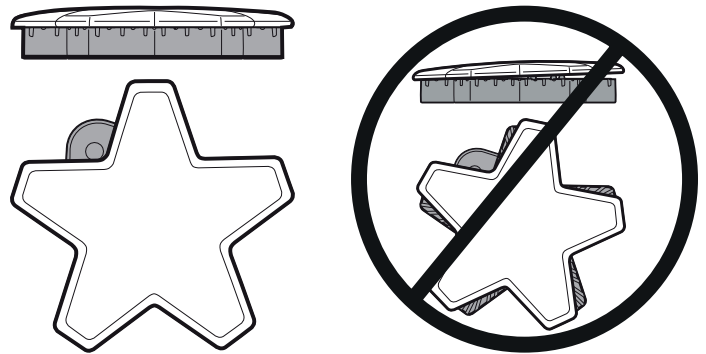

Figure 13: Correct and Incorrect Burner Cap Placement
- Check each burner to make sure there is no gap between the burner cap and burner base. See *Figure 13: Correct and Incorrect Burner Cap Placement* to see examples of correct and incorrect placements of the burner cap.
- You may gently try to move the burner caps from side to side to check if the caps are properly placed on the burner bases. When properly placed, each burner cap will rest flat on top of its burner base, and completely cover the star-shape of the burner base when viewed from the top as shown in *Figure 13*.